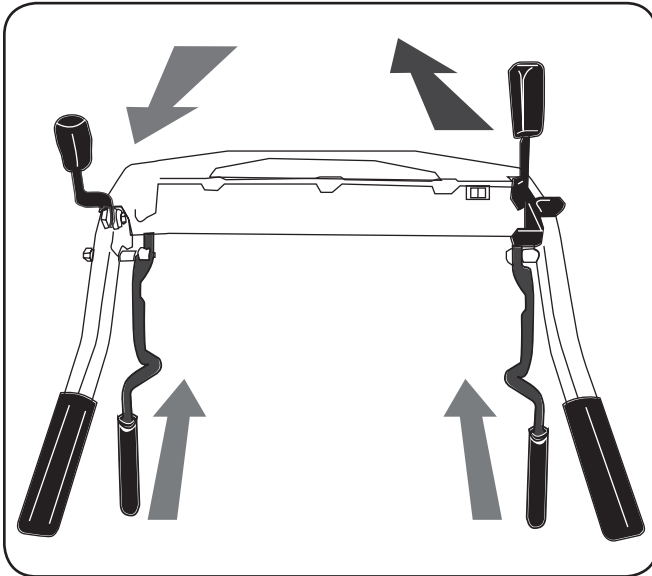

Figure 5-3
- a. Engage the neutral handle and the clutch control bail, with the reverse handle disengaged and the tines and wheels will move forward. See Figure 5-3. To stop the forward motion of the tines and wheels, release the bail.